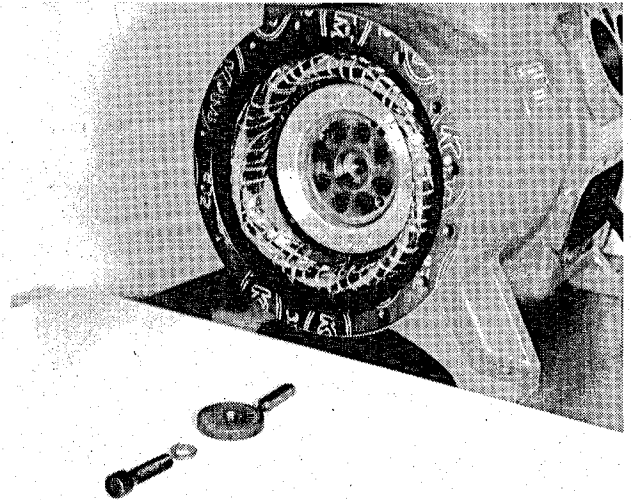

Figure 45
3. Remove the rotor bolt and washers (Figure 45).